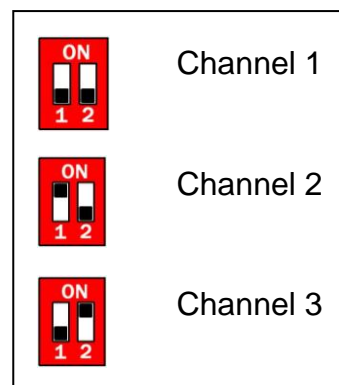

Fig. 19
15. There is a channel select switch on the circuit board and the remote control. The remote control must be set to the same channel (1, 2 or 3) as the robot to be able to control it. If you are playing with your friends, each must choose a different channel so that one will not interfere with the other units. (Fig. 19)